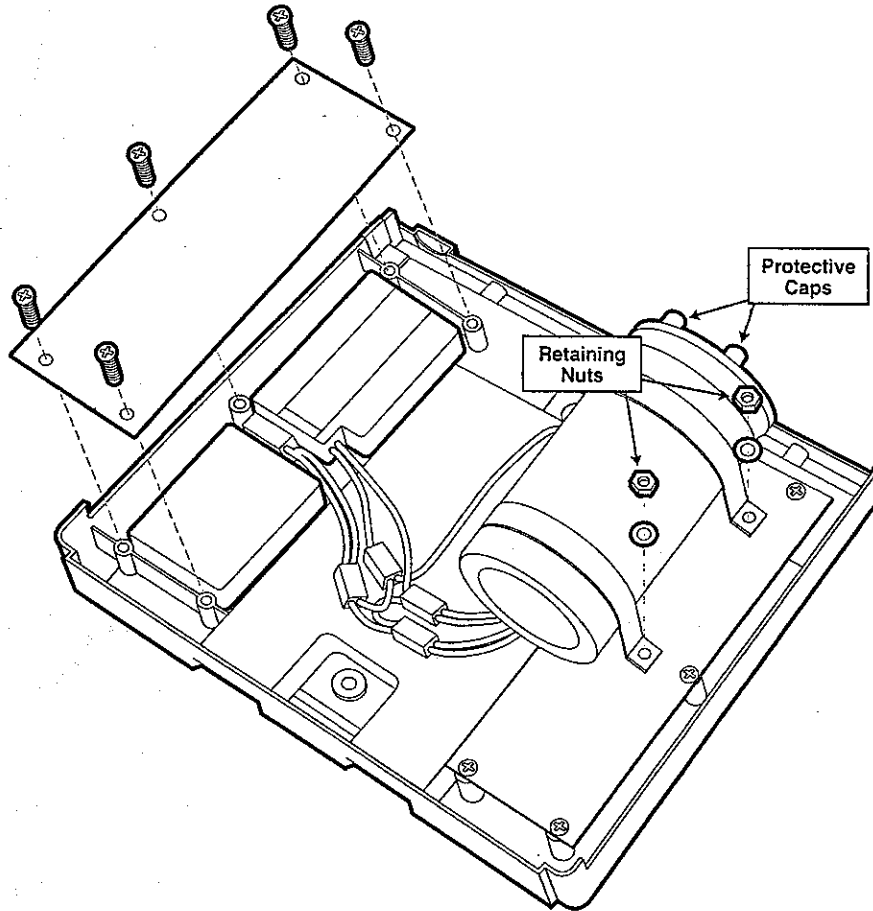

Figure 5-6. Internal Batteries / Energy Storage Capacitor
- 2 To remove the batteries, refer to Figure 5-6 to remove the five (5) screws from the battery retaining plate.